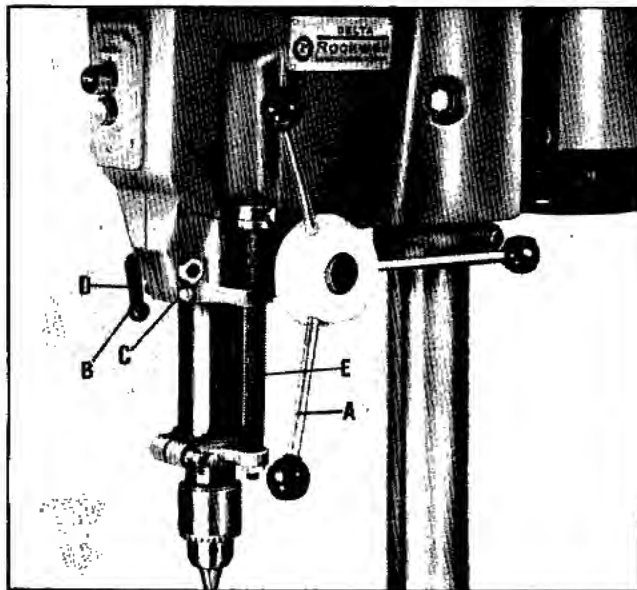
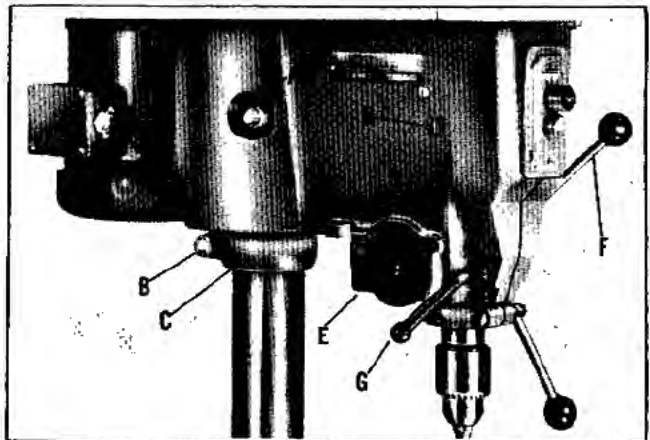

Fig. 5
Fig. 6
Your 15" Drill Press has been completely assembled and tested at the factory. All that is necessary for you to do is loosen the clamp nut (A) Fig. 6, on left hand side of head, that holds the head to the column, slide the head up until casting top is level with the top of the column and retighten clamp nut. Then loosen clamp nut (B) Fig. 6, move support collar (C) up against bottom of head, and tighten clamp nut. The table and all other machined or unpainted surfaces of the drill press are protected with a coating of rust preventive. This coating may be removed with a soft cloth moistened with kerosene (do not use acetone, gasoline or lacquer thinner for this purpose.) After cleaning, cover all unpainted surfaces with a light film of good machine oil.
The spindle is raised and lowered by the pilot wheel (A) Fig. 5. The quill can be locked at any desired point in its travel by tightening the quill lever (B) Fig. 5. This is an especially desirable feature for router and shaper work.
The adjusting screw (C) Fig. 5 and nut (D) are set at the factory to give the quill the proper sliding fit in the head casting. After long service play between quill and head casting can be removed without the need to replace these parts. The nut (D) Fig. 5 is loosened, adjustment is made with the screw (C), and the nut is again tightened to prevent the screw from turning. Hold the screw with a screwdriver when nut is tightened, and check by moving the quill up and down several times to be sure the quill does not bind. This adjustment should be made with the stop rod (E) Fig. 5 removed.
When drilling one or two holes to a predetermined depth, the calibrations on the face of the depth stop rod (E) Fig. 5, can be used.
1. Raise the locking sleeve (F) Fig. 5, and turn the micro-nut (G) to the desired position on the stop rod (E).
2. Lower the locking sleeve (F) so it will engage micro-nut (G) Fig. 5. Lock sleeve in place with thumb screw if drill press head is mounted in other than vertical position. When the drill press is mounted with the chuck pointing up the locking sleeve (F) and micro-nut (G) Fig. 5, should be reversed on the stop rod (E).
3. When locking sleeve (F) is in place on the micro-nut (G) Fig. 5, the micro-nut can not be turned. When a change in depth is required, the locking sleeve (F) must be raised and while it is raised, turn the micro-nut (G) the necessary calibration marks. Each mark represents .002". Then lower the locking sleeve.
For the purpose of automatically returning the spindle upward after the hole has been drilled, a clock spring is provided enclosed in the case (D) Fig. 6. This spring has been properly adjusted at the factory and should not be disturbed unless absolutely necessary. If at any time it is necessary to adjust it proceed as follows:
1. To increase the tension of the spring, turn the screw (E) Fig. 6, which is located underneath the head, clockwise. CAUTION: BE CAREFUL NOT TO BOTTOM RETURN SPRING WHILE TURNING SCREW (E) FIG. 6, CLOCKWISE, THERE SHOULD BE ENOUGH SLACK LEFT IN SPRING TO PERMIT LOWERING THE SPINDLE THE FULL AMOUNT OF TRAVEL.
2. To decrease tension of the spring, turn the screw (E) Fig. 6, counterclockwise.
3. The tension of the spring can be tested by pulling down the pilot wheel lever (F) Fig. 6, and testing to see if the quill will return to the up position. Be sure the quill locking lever (G) Fig. 6, is loose while testing. NOTE: Before determining if this adjustment is necessary, make sure the stop rod (E) Fig. 5, runs freely up and down and is not twisted in the slot or guide of the head casting.
The ball bearings in the quill and spindle pulley are grease-sealed for life. The quill is oiled through oiler (H) Fig. 6, which is on the left side of the drill press head. The head has a groove on the inside to allow the oil from the oiler (H) to flow down and oil the pinion shaft and rack.
The spindle return clock spring should be oiled three or four times a year. This is lubricated through the oil holes provided in the clock spring housing (D) Fig. 6.